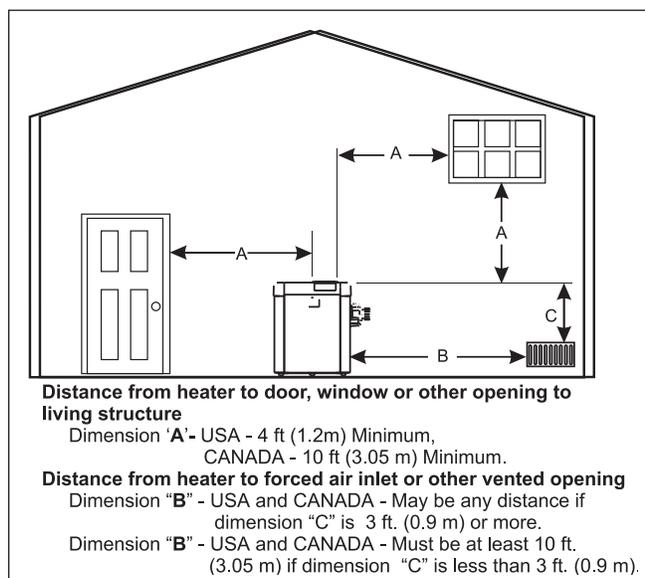

Figure 3. Outdoor Heater Installation
horizontally from, or 1 ft (300 mm) above any door, operable window, or gravity inlet into any building. In Canada, the heater must be installed so that the exhaust point of the heater is at least ten (10) feet (3.0 m) from any building opening. See Figure 3.